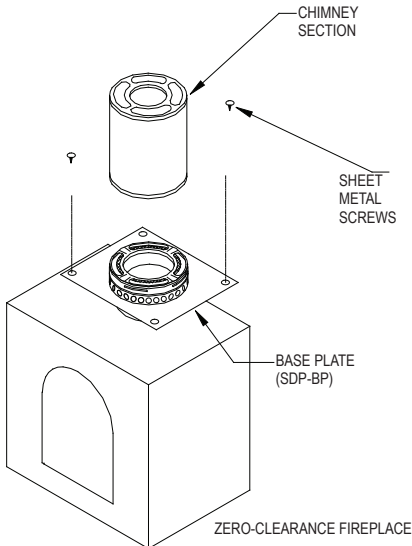

Figure 31
- 2. Base Plate:** Attach a Base Plate to the fireplace top with sheet metal screws. **(Figure 31)**. A high temperature sealant may be used if desired.